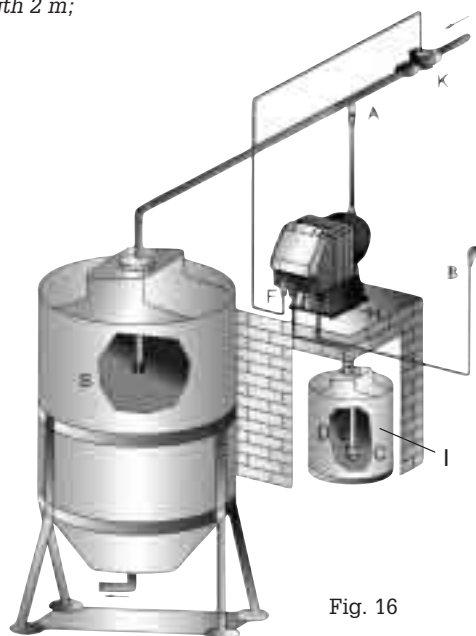

Fig. 16
8.1.2 - TYPICAL INSTALLATION (Fig.16)
8.2.2 - TYPICAL INSTALLATION (Fig.16)